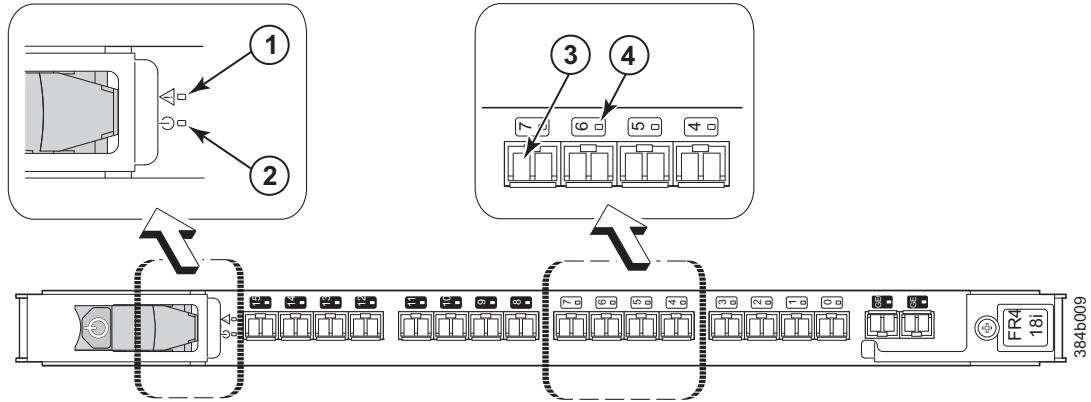

Figure 24. FR4-18i routing blade
- Figure 24 on page 52 illustrates the FR4-18i routing blade